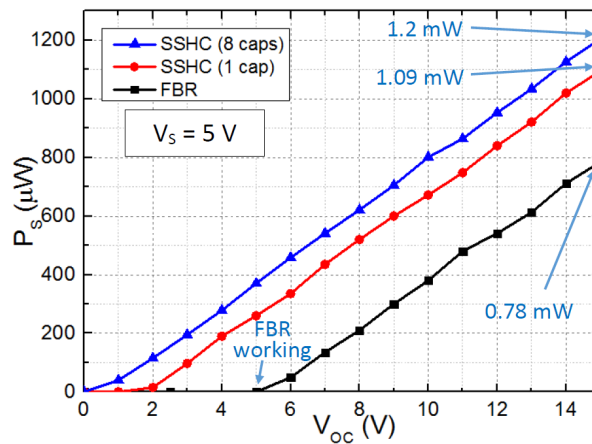

Figure 5. Measurement results of P_s - V_{oc} graph with $V_s=5V$.
The proposed SSHC interface circuit was designed and fabricated in a 0.35 μm HV CMOS process. The system was experimentally evaluated using a commercially available piezoelectric transducer (PT) of dimension 58mm \times 16mm (Mide Technology Corporation V21BL). Figure 5 shows the output power of the PT with a convention-